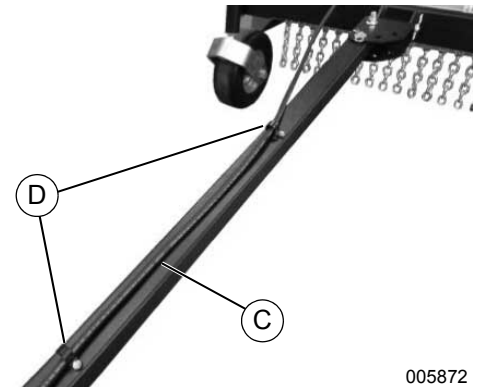

Figure 2-8. Remote Control Installed
3. See Figure 2-8. Route remote control cable (C) through tow bar cable clamps (D).